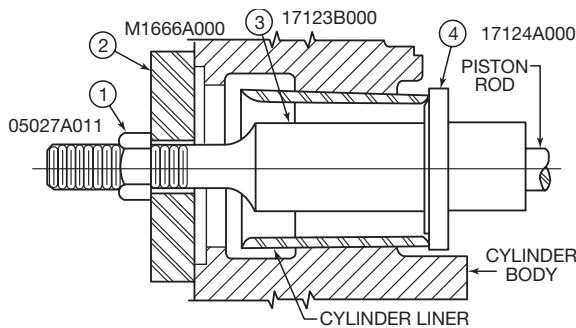

Figure 1
**Removal:** (See Figure 1)
3. Insert puller (3) through inside of cylinder.
4. Insert disc (4) into slots on puller (3).
5. Slip plate (2) over threads on puller (3) as shown.
6. Screw nut (1) on thread in puller (3) and snug up.
7. Tighten nut (1) until liner breaks loose.
8. Loosen nut (1) and slip disc (4) out of slots.
9. Remove puller (3) and repeat to remove remainder of cylinder liners.